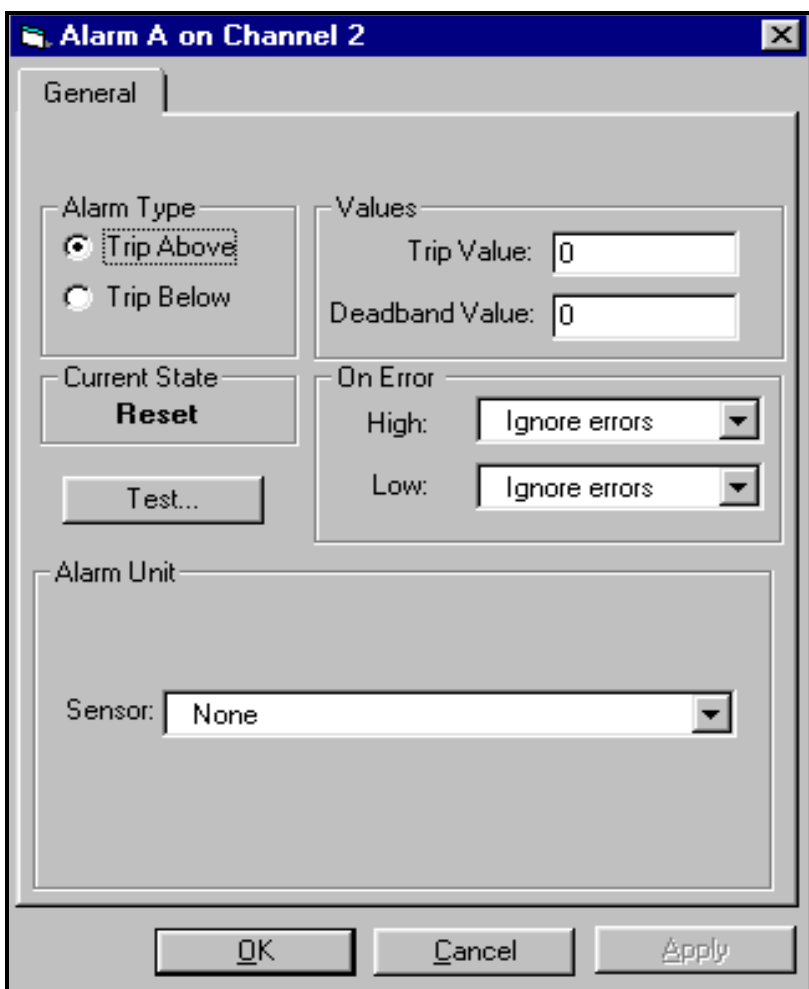

Figure 51: Alarm Programming Window
2. From the channel menu, click on the “*Alarms*” option, and then on “*Alarm A*” or “*Alarm B*.” The Alarm window appears, as shown in Figure 51.